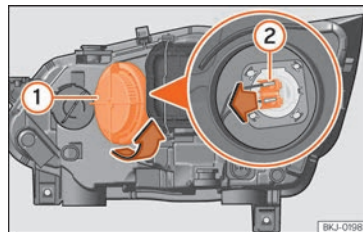

Fig. 51 In the engine compartment: main beam headlight bulb.
- Turn the cover **1** anti-clockwise and take it out »» **Fig. 51**.